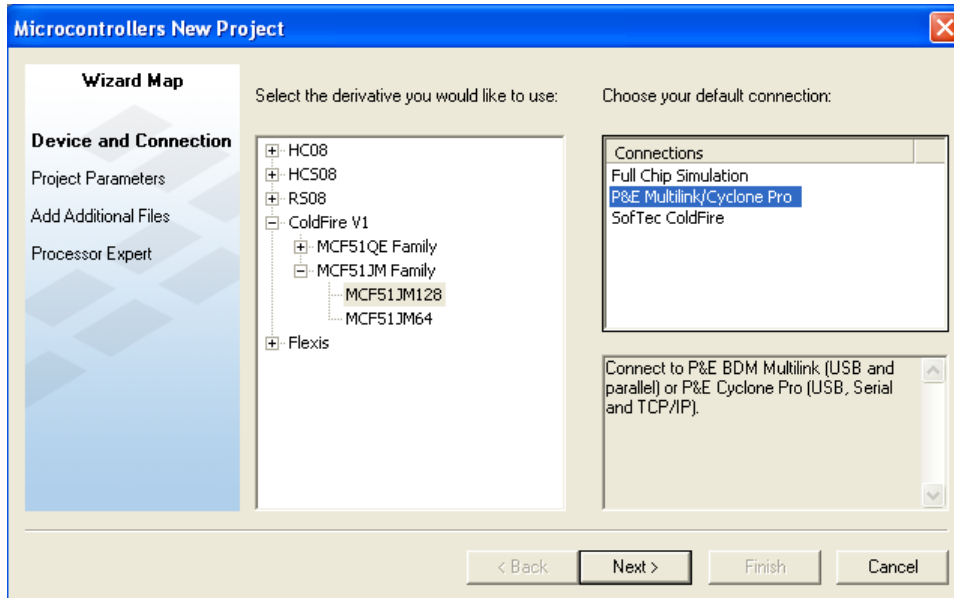

Figure 6. Create A New MCF51JM128 Project
3. Select MCF51JM128 MCU in the New Project wizard (Figure 6).